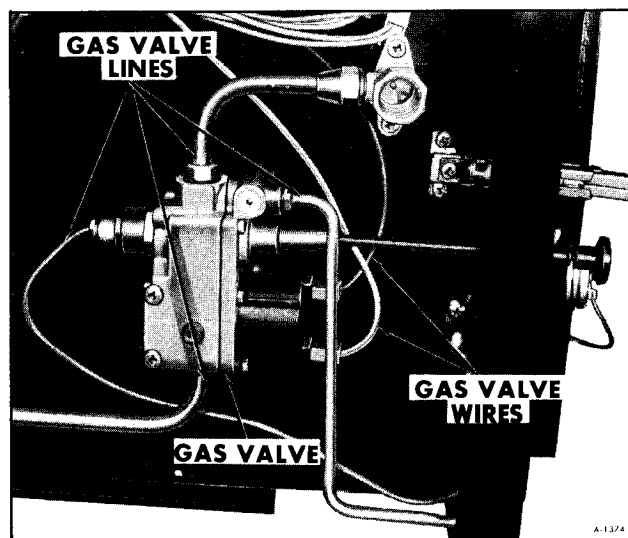

Figure 21—Gas Valve Wires and Lines
2. Disconnect the two wires at gas valve shown in Figure 21.
3. Disconnect all lines from gas valve (inlet, outlet, pilot, and thermocouple (figure 21).
2. Connect all lines to gas valve (See figure 21) inlet, outlet, pilot and thermocouple.